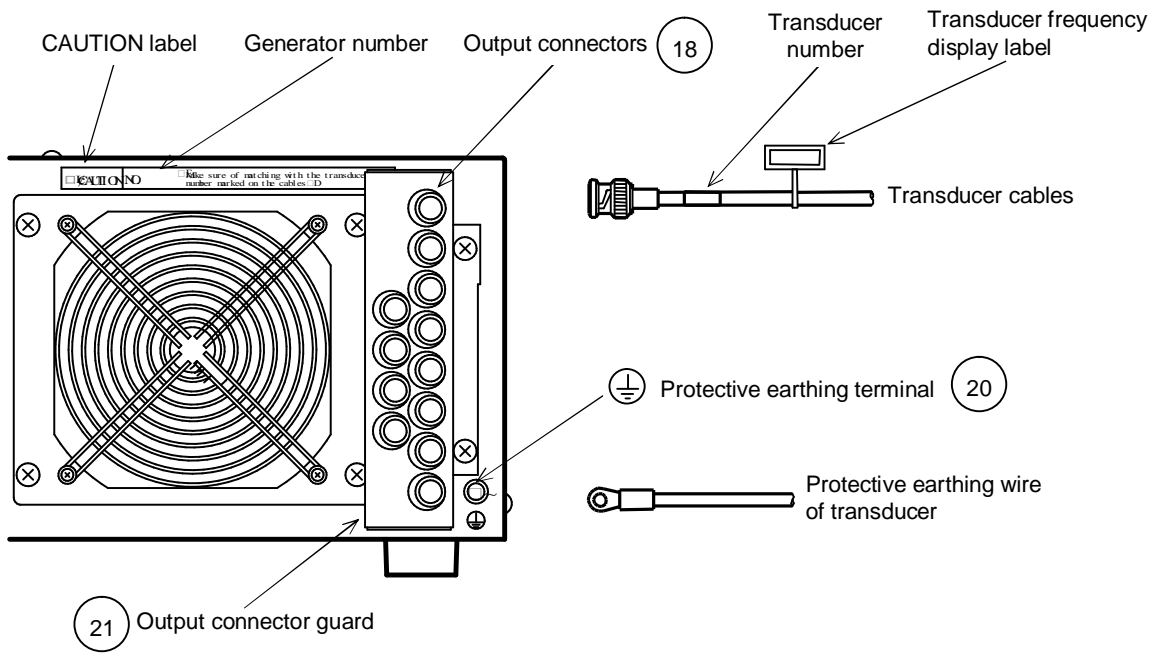

Figure 5-1
5.1. Connecting Output -: See Figure 5-1.
5.2. Connecting the Protective Ground Line - See Figures 5-1 and 5-2.